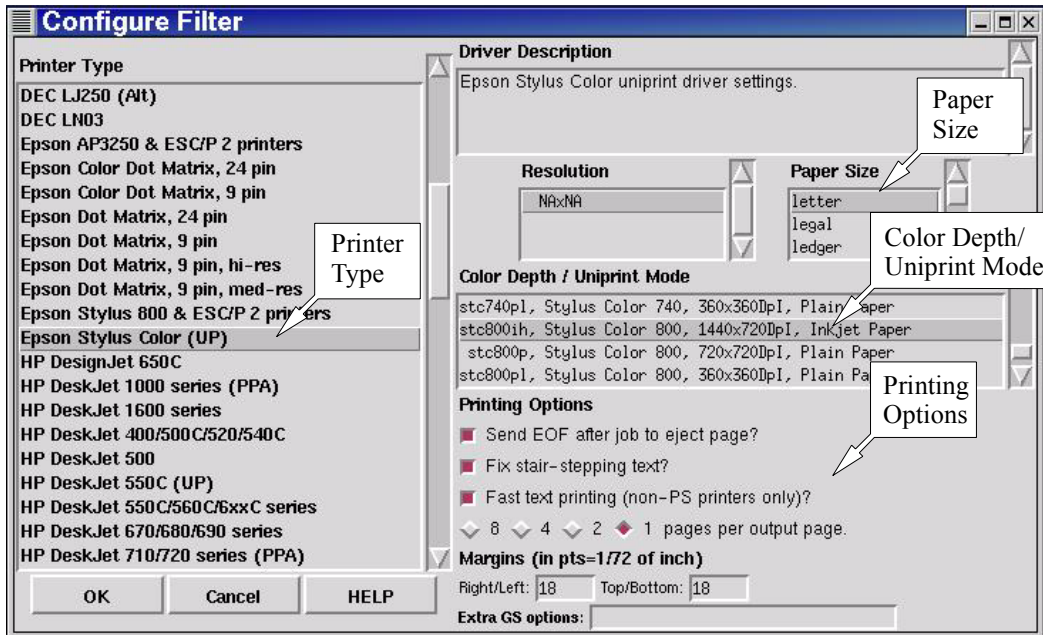

Figure 16-18 Configuring the filter.
6. **Configure the filter.** In the Configure Filter window select the proper printer model. On the right side of the window, select the desired Paper Size and Color Depth/Uniprint Mode. Also make your Printing Options choices. These options may need to be set differently for different printers. Usually choosing all three options works. After you finish configuring the filter, click OK to exit. (See Figure 16-18.)